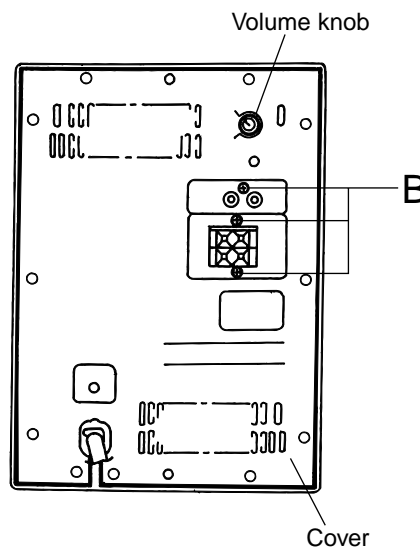

Fig.2
■ Removing the cover (See Fig.2)